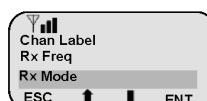

Figure 7
7. Highlight "Rx Mode" and press "ENT", highlight "Analog" and press "ENT". (See Figure 7)